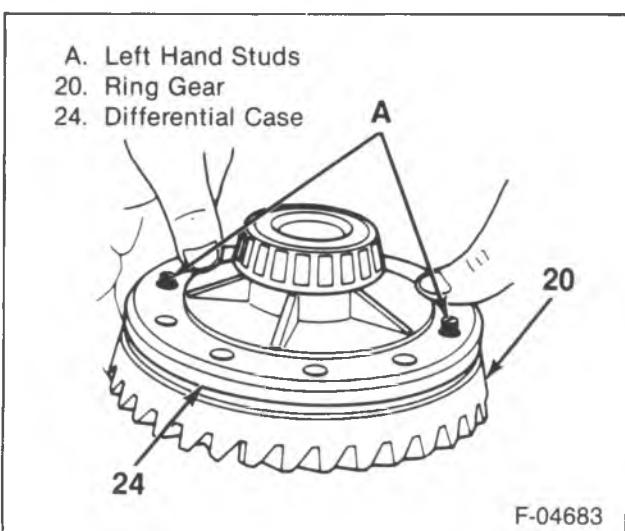
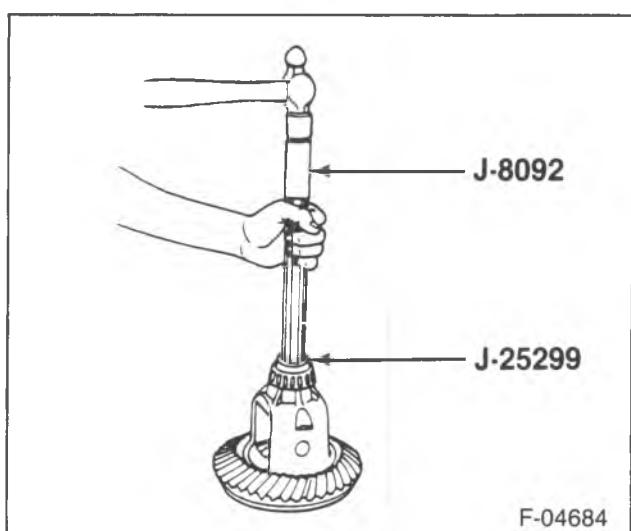

Figure 11—Ring Gear Studs
Figure 12—Side Bearing Installation
3. Pinion gears (28) to the differential without the thrust washers (27).
4. Pinion thrust washers (27).
7. Ring gear (20) to the differential case (24) (figure 11).
8. New ring gear bolts (25).
9. Differential side bearings (22) using J 25299, J 8092, and J 8107-2 (figure 12).
10. Differential case (24) to the axle housing. Refer to "Side Bearing Pre-Load Adjustment" in this section.